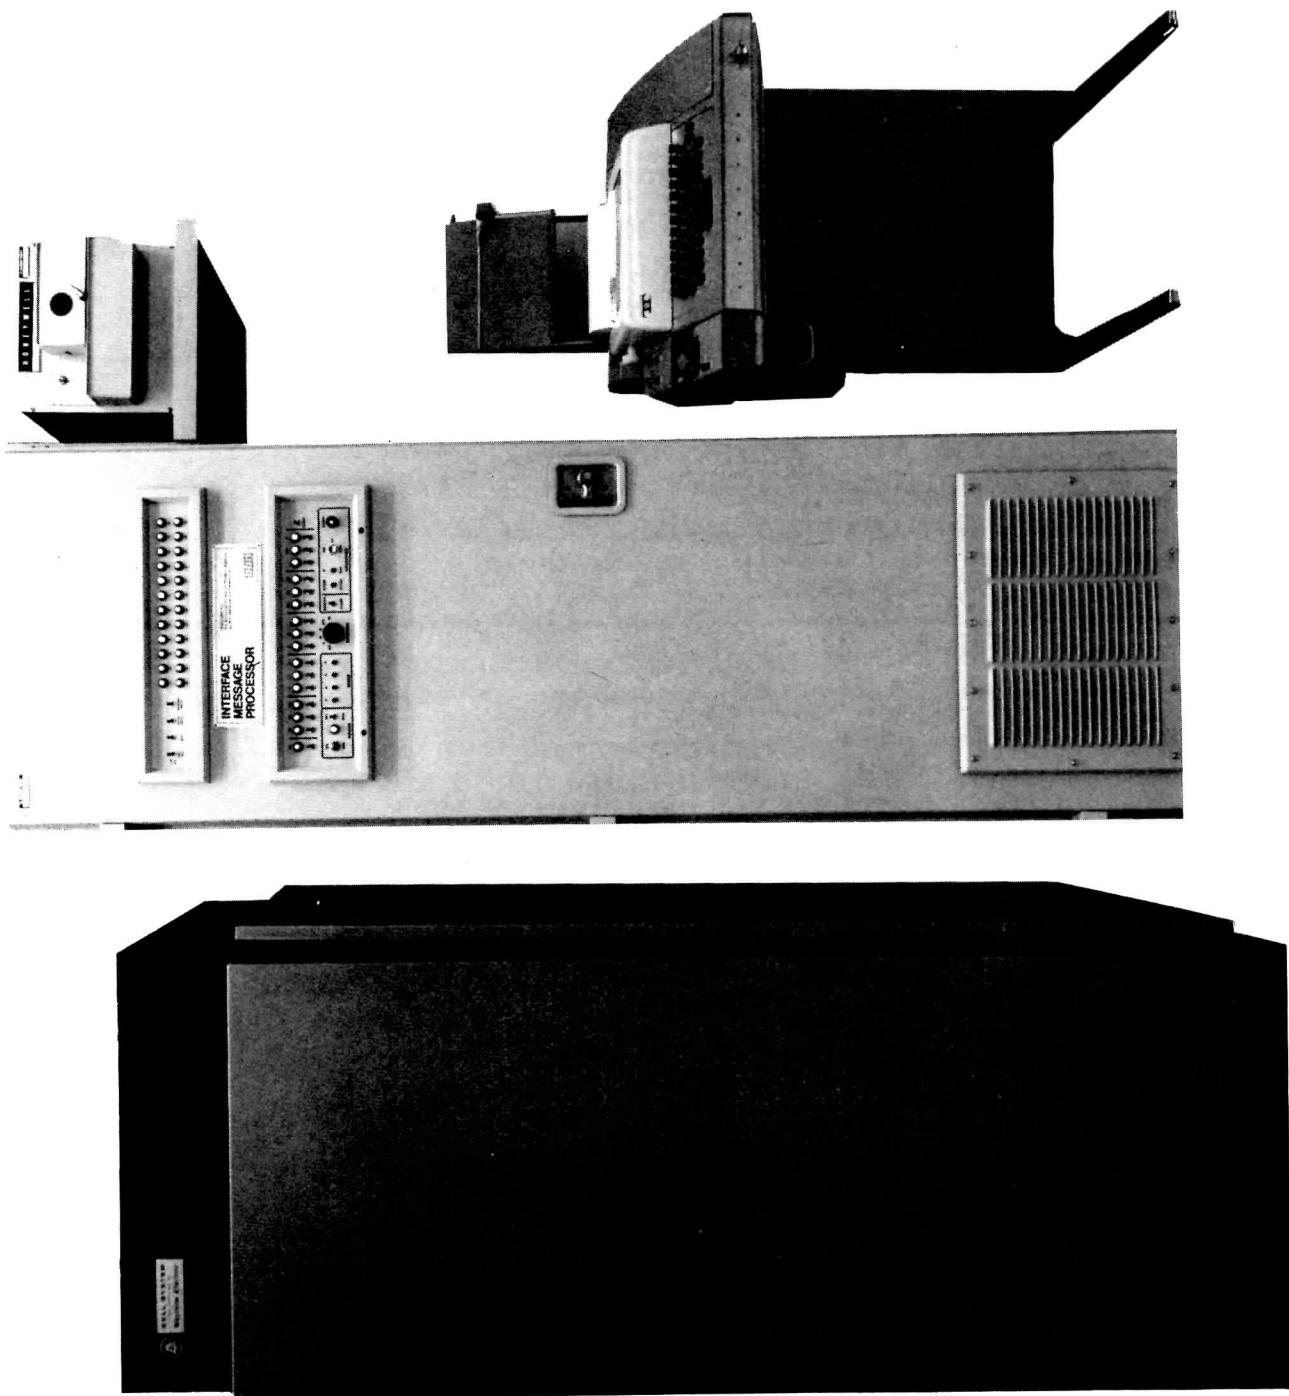

Figure 1. 516 IMP, Modem Cabinet, and IMP Teletype
- The 516 IMP, ruggedized Honeywell DDP-516 (see Figure 1).